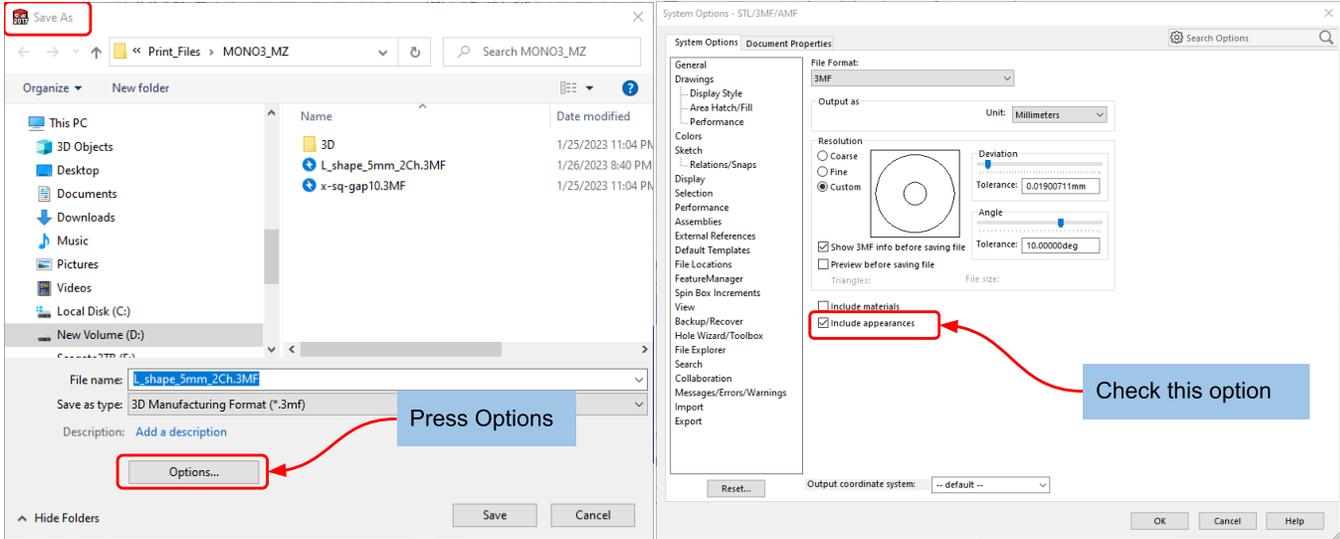

Fig. 26. Solidworks 3MF export and option window
- Press a new printer profile (**Fig. 26**) and enter the printer name and parameters as shown.